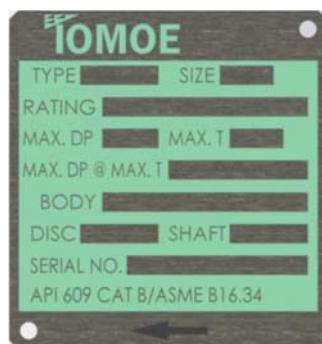

Fig. 2b
- The valve is designed to seal against bi-directional flow. However enhanced sealing performance will be achieved with the upstream flow against the shaft side of the disc. This 'preferred flow direction' is shown on the valve nameplate (item 19) attached to the valve body. (see fig. 2b)
The following items are the recommended field replaceable spare parts (per valve). All other components should only be replaced by Tomoe Valve or an authorised representative. When requesting spares it is important that the relevant valve serial number (located on the valve nameplate – see fig 2b) is supplied to Tomoe. This ensures that the correct parts are supplied for any particular valve.